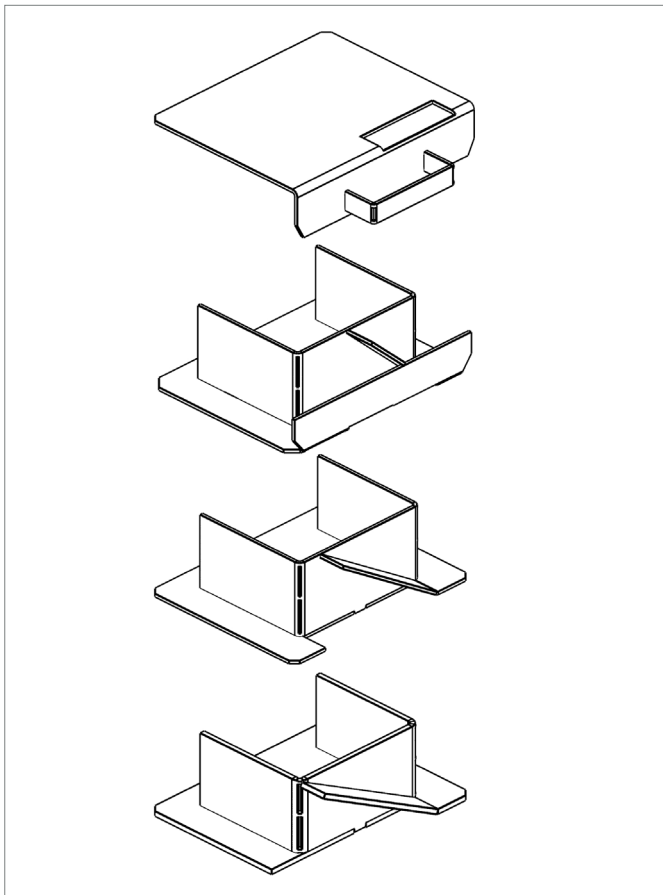

Figure 4-8: Re-fitting baffles into boiler shell
15. Refit baffles into boiler shell – ensuring they are in the correct order (check marking on each baffle) as shown in Figure 4-8.